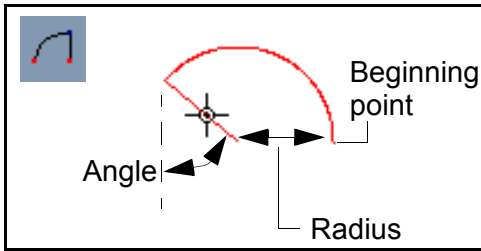

Figure 3.11 *Parts of an arc*
*Figure 3.11* shows the parts of an arc sweeping to the left.